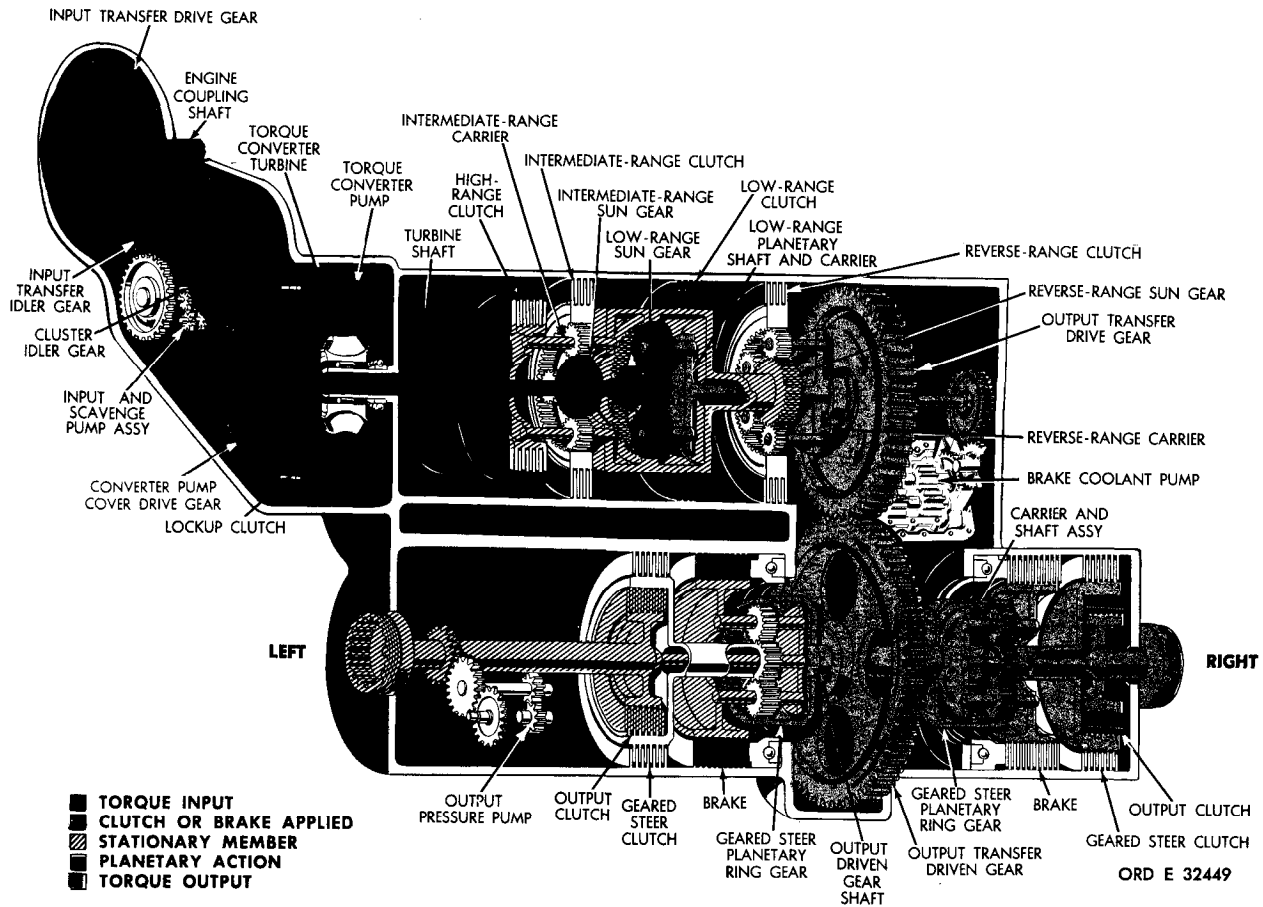

Figure 30. Second-gear, full-left-steer torque path, lockup operation
**54. TORQUE PATH - SECOND GEAR, FULL-LEFT STEER, LOCKUP OPERATION (fig. 30)**